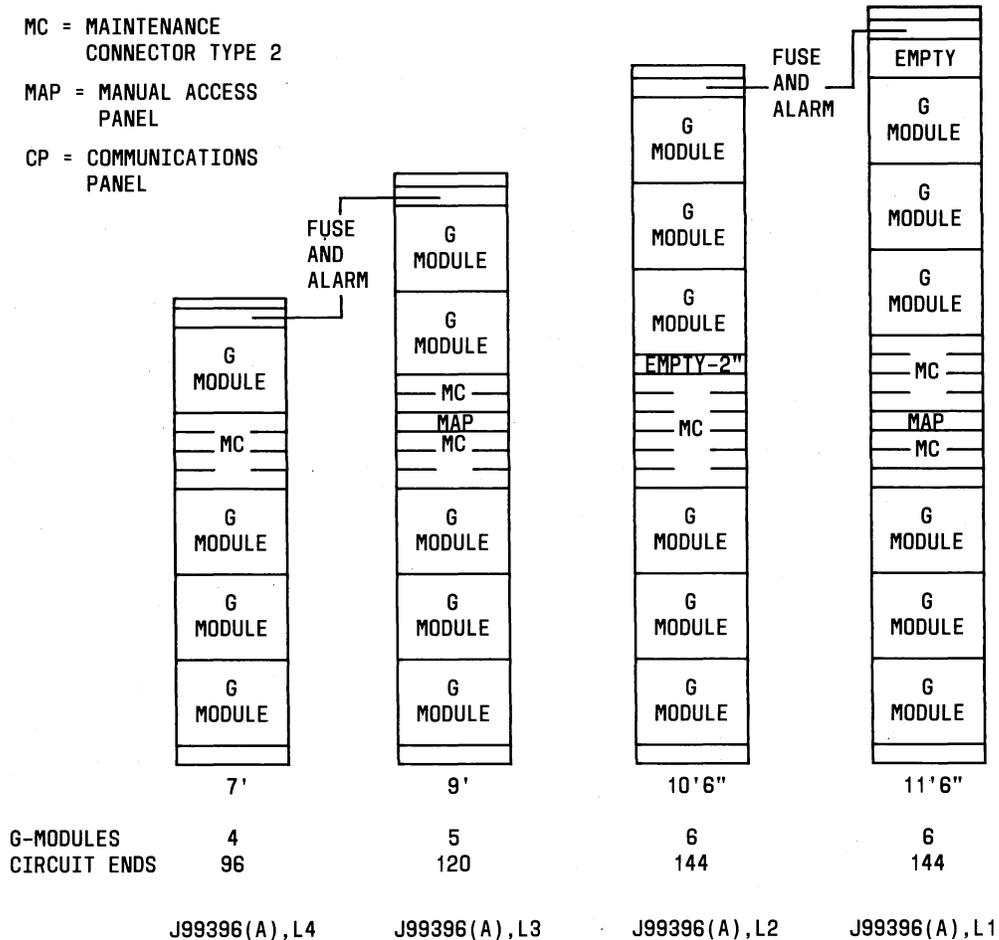

Fig. 4—G-Signaling Consolidated Frame Configurations With Maximum Number of G Modules
2.05 The G-consolidated frames use standard 23-inch relay racks in four heights. The consolidated frame has the option for SMAS and other maintenance features (Fig. 4). This type of frame reduces the amount of cabling and distributing frame cross-connects because the maintenance features are in the frame. The consolidated frame can be used in conjunction with all analog carrier systems or 4-wire facilities. Further information concerning the consolidated frame is located in Section 801-644-151.